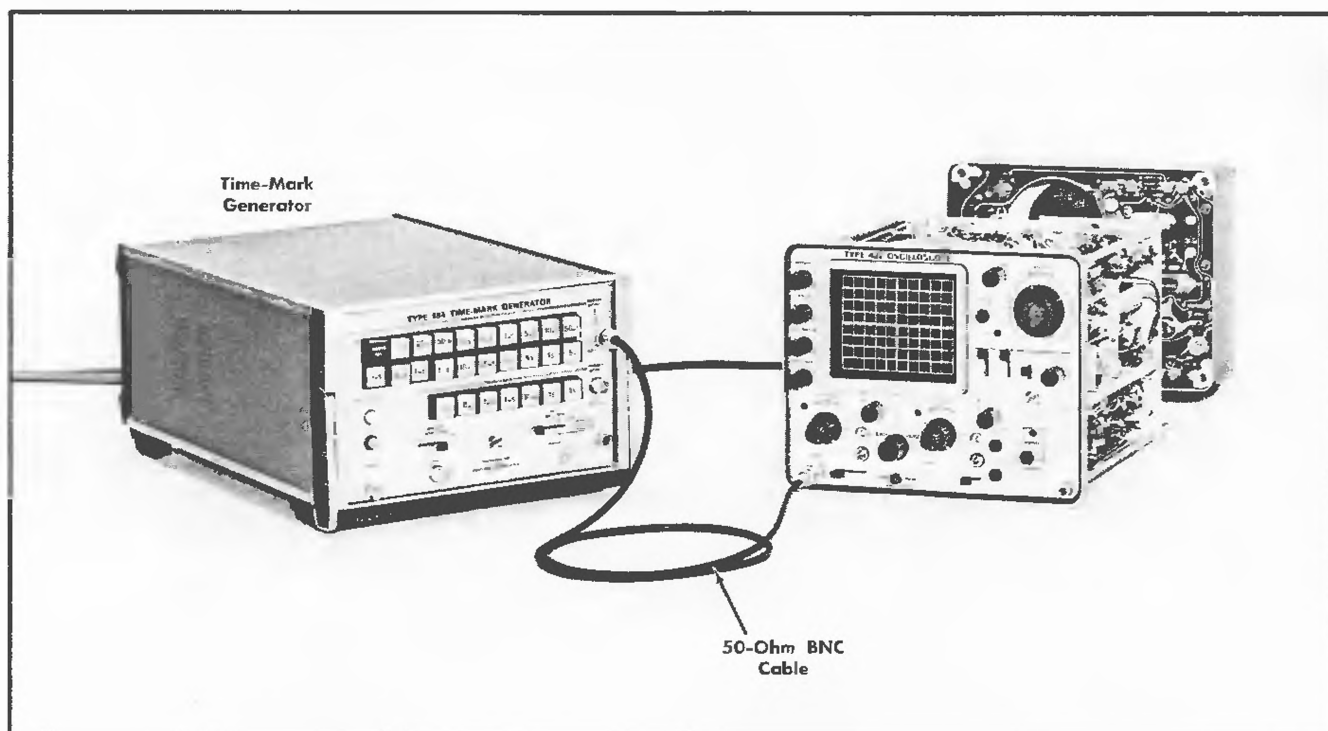

Fig. 6-10. Initial test equipment setup for steps 6-10.
①
- Test equipment setup is shown in Fig. 6-10.